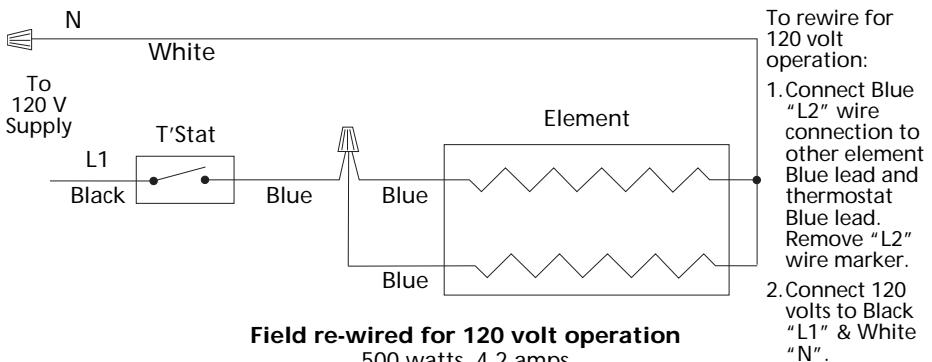

Figure 4
4. To operate the heater at 120 volts requires the heater to be re-wired as shown in Figure 4 by connecting blue L2 lead wire to wire connection of the other element blue lead wire and thermostat blue lead wire. Remove the L2 wire marker. Connect 120 volts to the black L1 lead and the white N lead. See Figure 4.